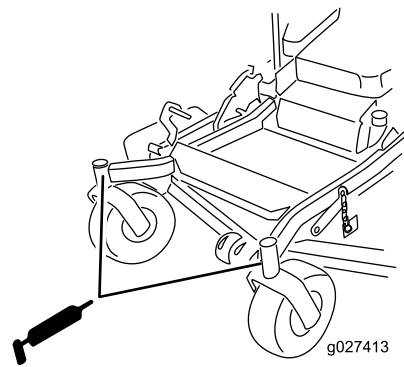

Figure 42
10. Install the hex plug and dust cap (Figure 42).